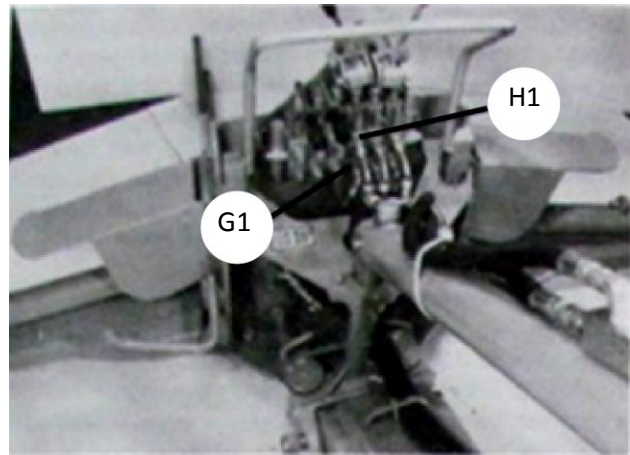
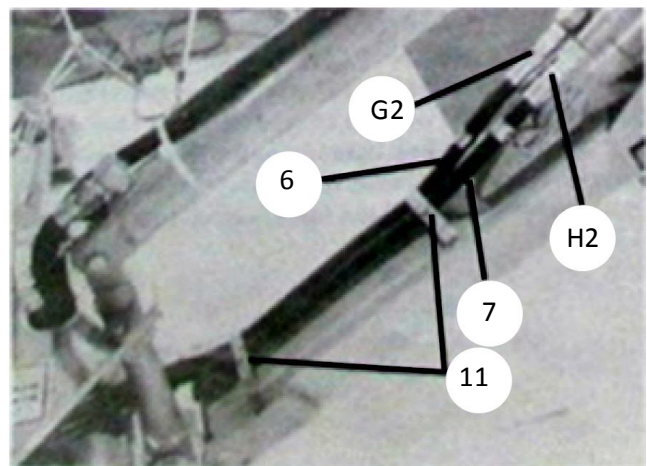

Fig. 7
Fig. 8
(9) Connect end of “dipper open” hose (Item 7) equipped with long 90° fitting to upper port (Point H1) on third valve section from right as shown in Fig. 7. Route past lower swing shaft on the right side, over hose guard, along top of boom and connect to the cylinder port on rod end (Point H2) as shown in Fig. 8.
(8) Connect end of “dipper close” hose (Item 6) equipped with short 90° fitting to lower port (Point F1) on third valve section from right as shown in Fig. 7. Route past lower swing shaft on the right side, over the hose guard, along top of main boom and connect to the cylinder port on the base end of the crown cylinder (Point G2) as shown in Fig. 8.
(10) Using one (1) each plastic hose tie, (Item 8 in box parts list), fasten the dipper open hose to the crowd cylinder at mid-point. Pull all the slack in the two crowd hoses toward the swing shaft and secure to the boom (loosely) with two (2) each hose clamps (Item 11 in boom assembly) and two (2) each ¼” x 1 ¼” bolts. The dipper open hose (connected at Point H1 and H2) must lay to the inside of the swing shaft and hose clamps. The dipper close hose (connected at Point G1 and G2) must lay to the outside of the swing shaft and hose clamps. See Fig. 7 and 8.